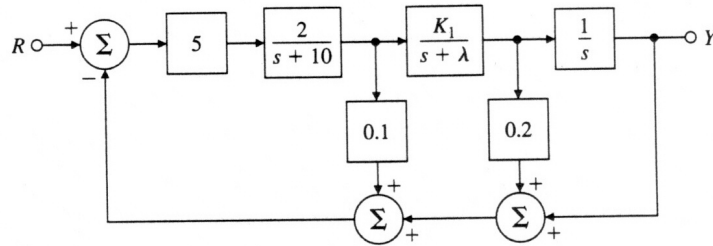

Figure 5.56: Control system for problem 5.16
16. For the system given in Fig. 5.56,